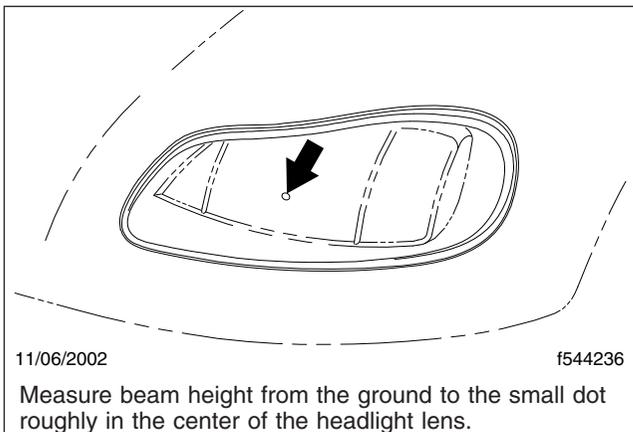
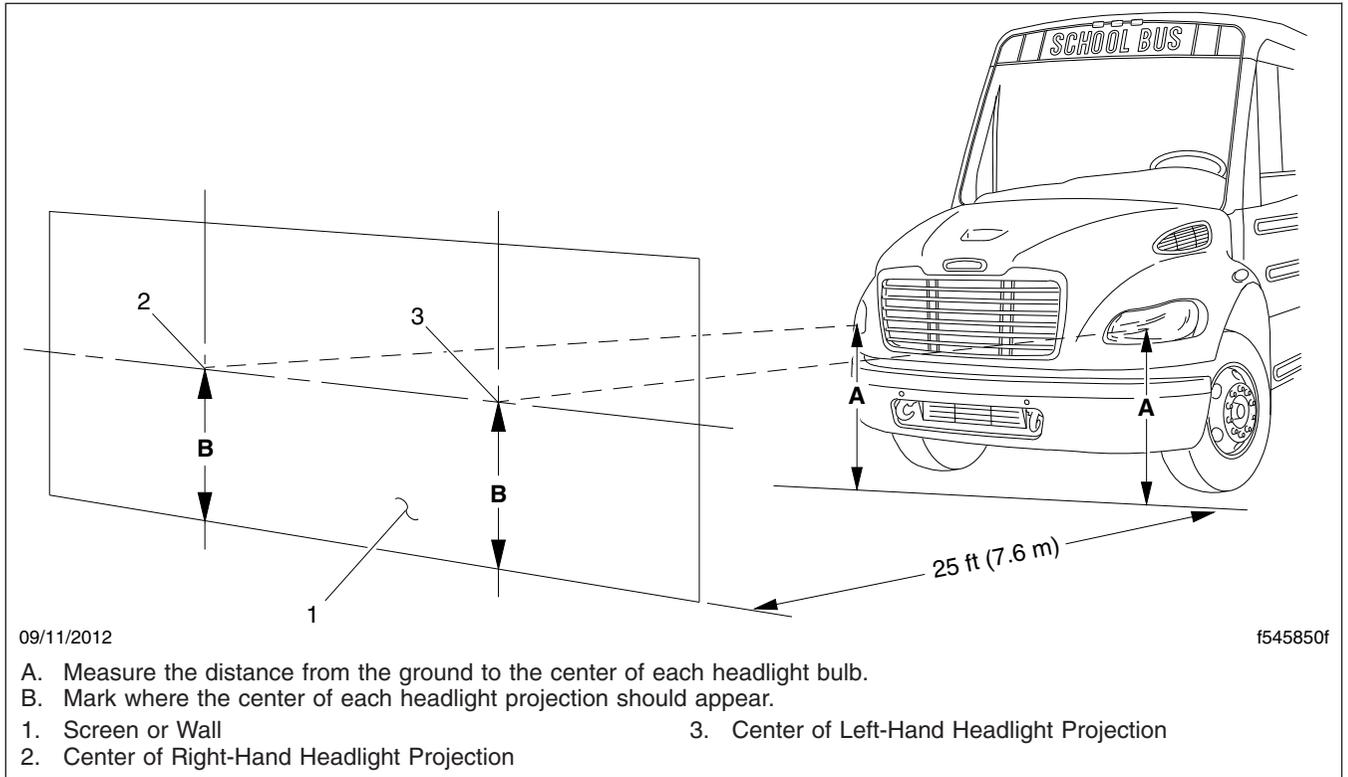

Fig. 15.1, Headlight Beam Height Adjusting Dot
Fig. 15.2, Headlight Aiming Screen/Wall
2. Each headlight has a height adjusting dot. See Fig. 15.1. Measure the distance from the ground to the height adjusting dot on each headlight. Note those distances. See Fig. 15.2, Ref. A.
3. Mark the vertical distances found in step 2 on the screen or wall, directly in front of the headlights. These marks represent the desired locations of each headlight bulb center in the following steps. See Fig. 15.2, Items 2 and 3.